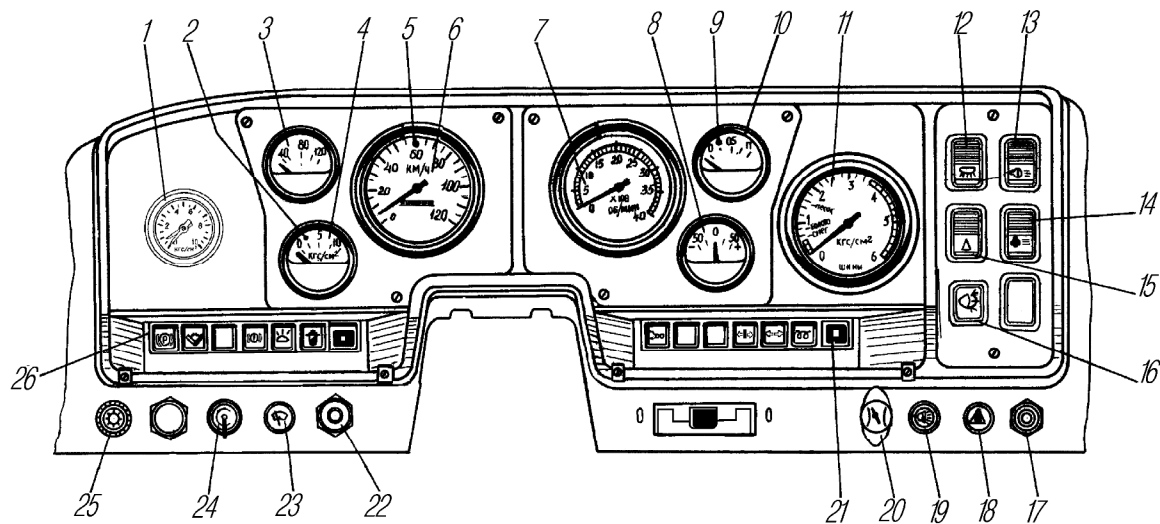

Fig.12. Dashboard:
- middle – neutral, pressure gauge 11 (Fig.12) indicates the actual air pressure in tires;
For switching on or off the truck storage batteries, press button 22 (see Fig.12) on the dashboard.
Fuel level indicator 10 (see Fig.12) shows the fuel level in the main fuel tank. Fuel reserve indicator 9 is built into the dial of the indicator and goes on when the fuel volume decreases down to 60 l.